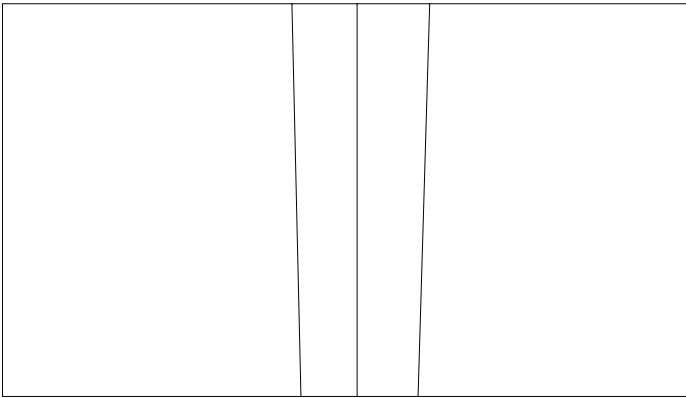

Figure 8A. Metal corner flashing applied to external corner
- As a best practice for water management, install a corner flashing extending 3"- 6" from each direction over a water resistive barrier (Figure 8A).